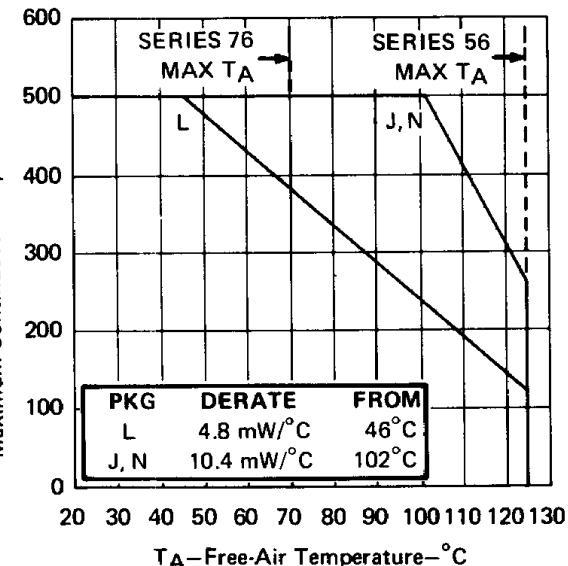

FIGURE 18
4. For operation above 25°C free-air temperature, refer to Dissipation Derating Curve, Figure 18.